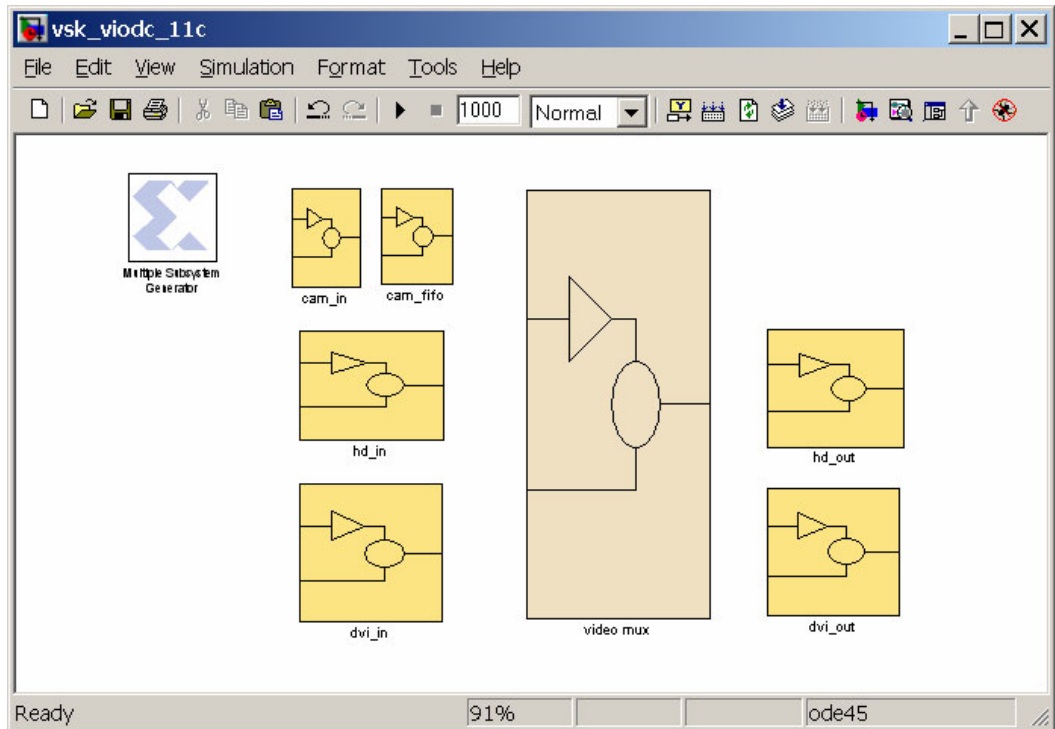
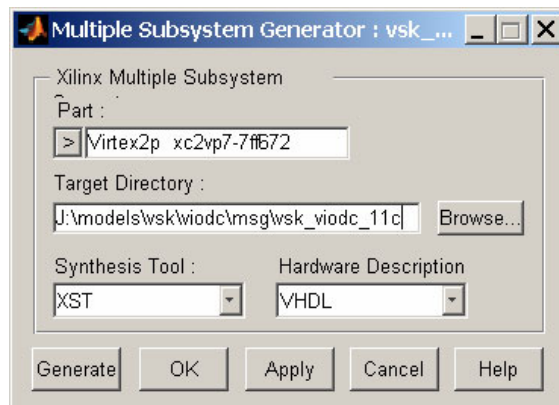

Figure 7-2: vsk_viodc_11c Top Level
Figure 7-3: MSG Generate Block
1. Open the top-level design `vsk_viodc_xxx.mdl` (Figure 7-2) and open the Multiple Subsystem Generator block (Figure 7-3).